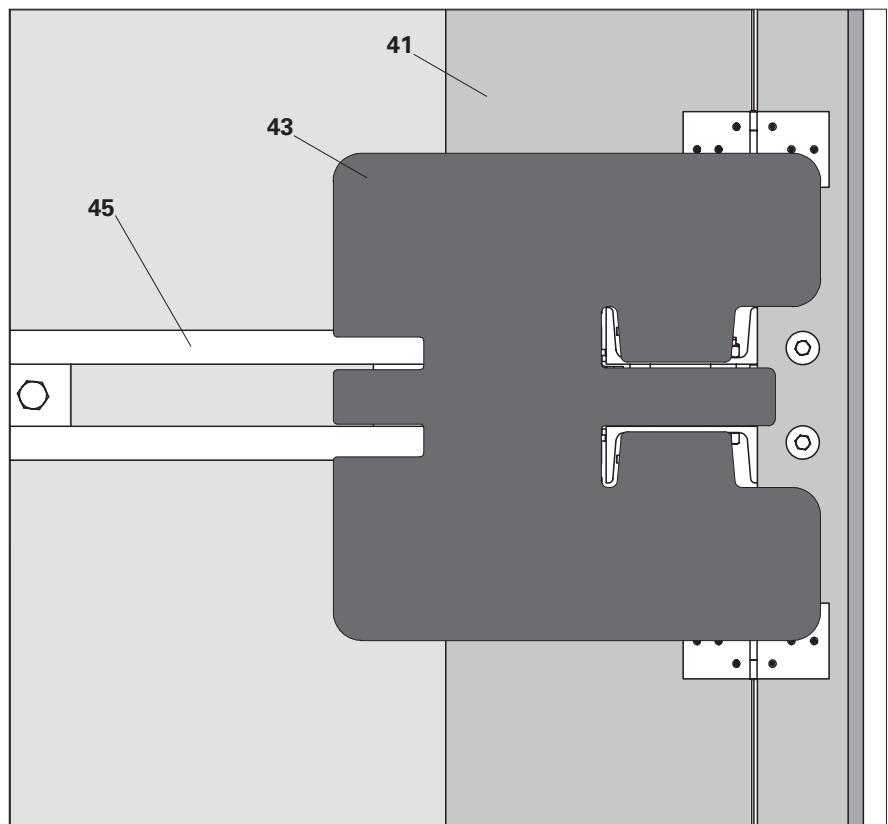

Fig. C4.07
1. Cover all gaps in the area of the slab shoe with Cover Mat RCS 70x70 (**43**). (Fig. C4.07)